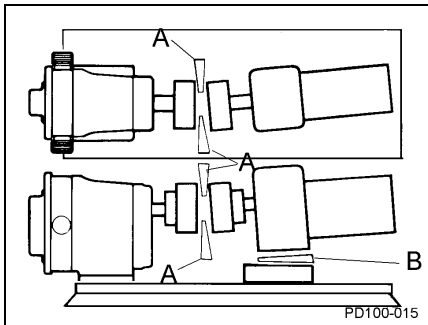

Figure 21 - Check Angular Alignment
1. Using feeler gauges or taper gauges (Figure 21, items A and B), check alignment at four points every 90 degrees around coupling; **adjust to equal dimension at all points.**